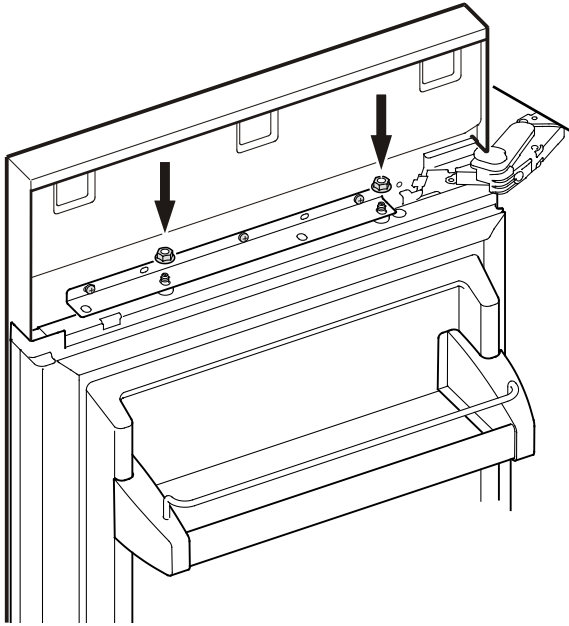

Figure 21
Mounting the refrigerator door panels - Figures 21 - 28
1. Open the left refrigerator door and suspend the panel on the adjusting bolts **Figure 21**.
2. Screw on the hex nuts to the adjusting bolts and tighten temporarily **Figure 21**.